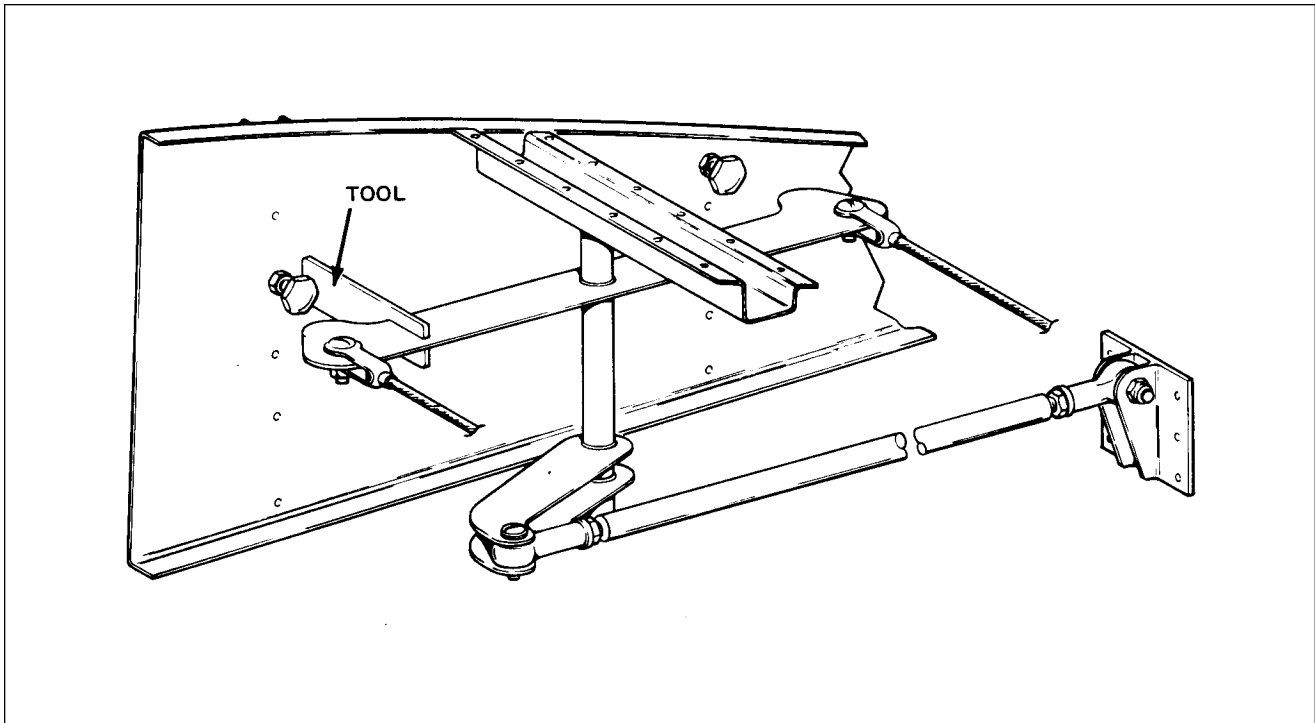

Figure 5-3. Bellcrank Rigging Tool
- a. Ascertain that the bellcrank pivot bushing (26) and teflon tube (27) are installed in the torque tube portion of the bellcrank (6).
- c. Install the bellcrank pivot bolt (25) with the head up. Install a washer and nut on the bolt, and torque nut within 20 to 25 inch-pounds. Check that the bellcrank rotates freely with little up-down play.
- d. Install and adjust control rod (7) and check aileron travel per Paragraph 5-12.
- f. Tighten the control cables at the balance cable turnbuckle (24) in the floor opening aft of the main spar. Check cable tension per Paragraph 5-12.
**5-12. RIGGING AND ADJUSTMENT OF AILERON CONTROLS. (Refer to Figures 5-3 thru 5-4.)**
3. Affix a bellcrank rigging tool, as shown in Figure 5-3, between the forward arm of each bellcrank and the adjacent outboard rib. (This tool may be fabricated from dimensions given in Figure 5-18.) The slotted end of the tool fits on the arm forward of and adjacent to the primary control cable end. The other end of the tool is positioned so that the side of the tool contacts the aft side of the bellcrank stop. The bellcrank must be moved to allow a snug fit of the tool between the bellcrank arm and rib. To do so, it may be necessary to loosen a primary control cable or the balance cable. Neutral position of the bellcranks may also be found by locating the position at which the forward and aft cable connection holes are an equal distance from the adjacent outboard wing rib.